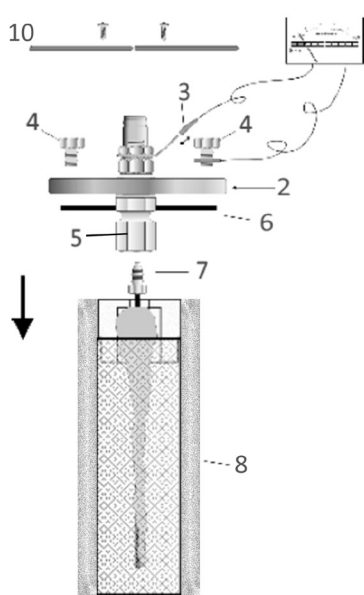

Fig. 2
3. Remove contact blade (3) from the blade terminal (Fig. 2)
4. Remove screws (4) (size 17 spanner) (Fig. 2)
5. Remove remaining flange screws (4) (7 ×)
7. Secure insulating screw (5) using a size 17 open-ended spanner (Fig. 2)
8. Loosen and unscrew the anode cone screw (7) using a size 10 open-ended spanner (Fig. 2)